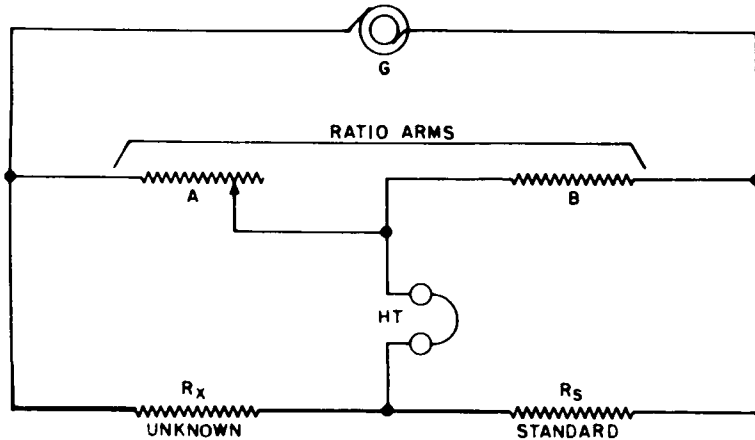

Figure 4-1. Basic Bridge Circuit, Generator and Indicator.
a. Figure 4-1 shows a bridge circuit in its most elementary form. An alternating current generator, G, passes current through two resistors, A and B, called the ratio arms and through resistors, R_x and R_s, called the unknown and standard, respectively. From consideration of the voltage drops, no current will
Comparison of this with Figure 4-1 shows that the 'A' arm is actually a potentiometer R157 which carries the MULTIPLY RANGE SETTING BY calibration 1 to 11 on the panel (see Figure 3-1). This is padded at its lower end, R156, so that the panel setting of 1.0 includes exactly 1000 ohms and higher settings correspondingly higher values; also, that the 'B' arm is one of four decimally related values selected by a switch. There are two values of the standard 'Rs'. Both switches shown are parts of RANGE switch S102.
a. Figure 4-5 shows a simplified circuit of the capacitance bridge. As the balance equation shows, it is actually the capacity-reactance rather than the capacitance which is balanced. Reversal of the positions of the standard and unknown with respect to the arms (compare with Figure 4-1) causes the A arm to retain its linear calibration. If the same relationship were
a. If operation of the basic bridge circuit, Figure 4-1, is interpreted as a balancing of the ratio arms against the respective voltage drops across R_x and R_s , then it is apparent that the same ratio arms can be balanced against the voltage drops across two windings of a transformer. This is shown schematically in Figure 4-8. If N_1 and N_2 are the turns of two closely coupled windings connected series-aiding as shown, then the bridge current through these will cause voltages, E_1 and E_2 proportional to the respective turns. Obviously, the bridge will balance when A and B have this same ratio.